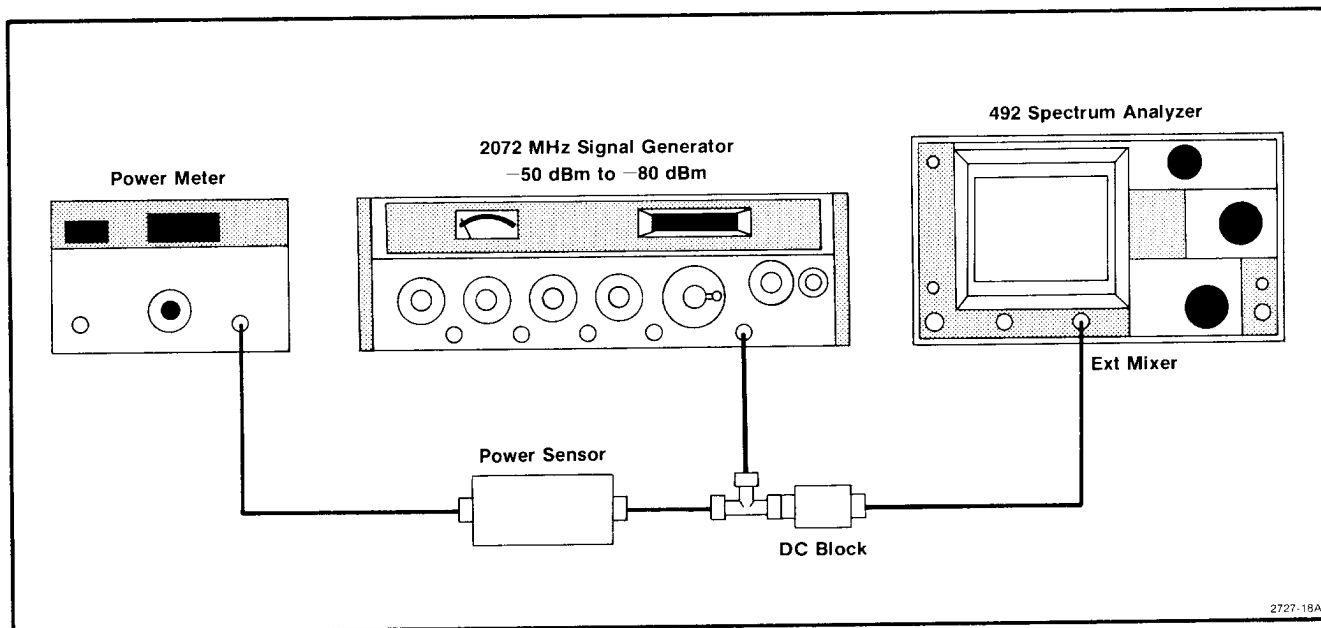

Fig. 3-50. Test equipment setup for calibrating band leveling of the external mixer bands.
a. Test equipment setup is shown in Fig. 3-50. Apply 2072 MHz at -58 dBm, through a dc-blocking capacitor to the EXT MIXER input. Monitor the input with a power meter to set the input level. Set the front-panel controls as follows: